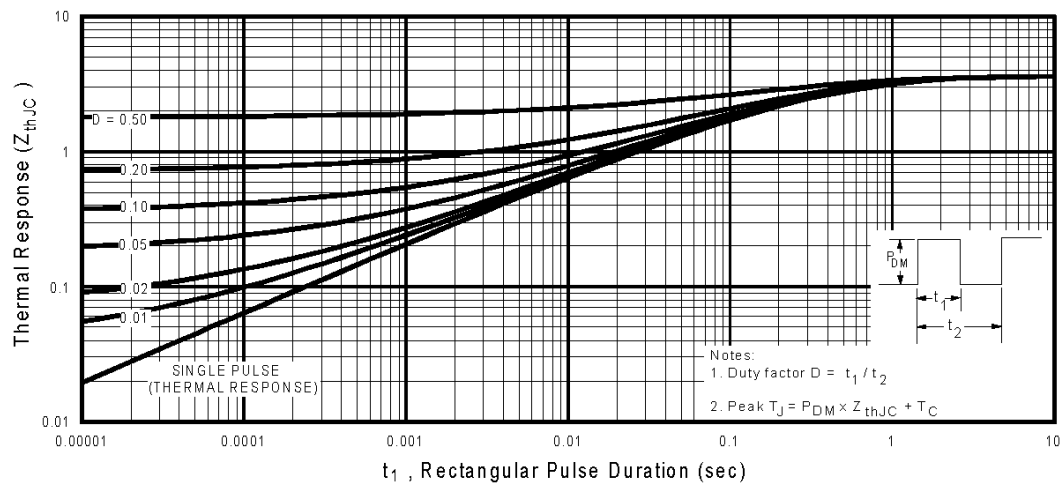

Fig 11. Maximum Effective Transient Thermal Impedance, Junction-to-Case
① Repetitive rating; pulse width limited by max. junction temperature. (See fig. 11)
② Starting $T_J = 25^\circ\text{C}$, $L = 62mH$